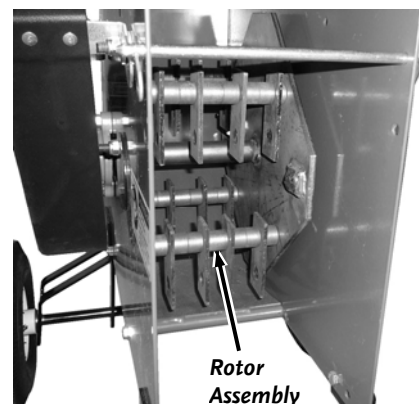

Figure 11
3. Remove any debris wrapped around the Hammers, Shaft or any other portion of the Rotor Assembly (**Figure 11**).